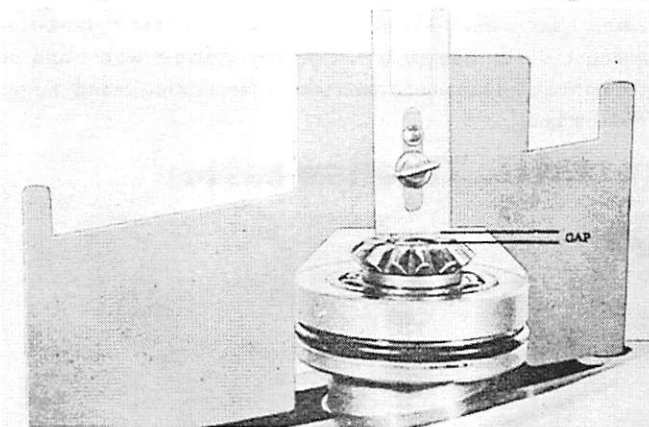

Figure 15. Shims Required
1. If a gap is measured between solid end of slide and top side of output gear (Figure 15), shims must be added between drive shaft and ball bearing equal to amount of gap.